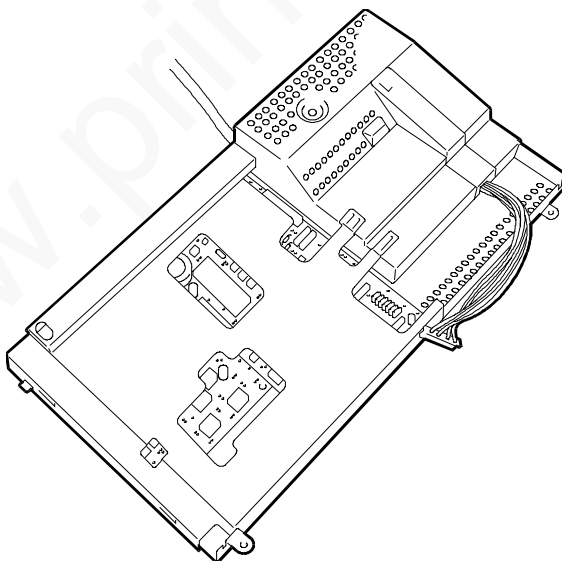

Fig. 7-14
- 5) Free all wires from their fastening and disconnect them from the underlying board (Fig. 7-14), then retrieve the base: